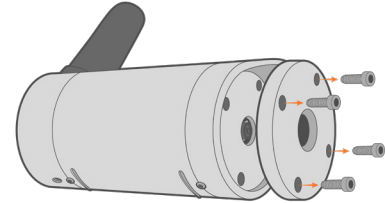

Figure 2: Remove the camera lens cover.
- 1 Use a 7/64" hex driver to remove the (4) screws holding the lens cover.
- a. Carefully lift the lens cover, avoiding contact with the camera lens (Figure 2).